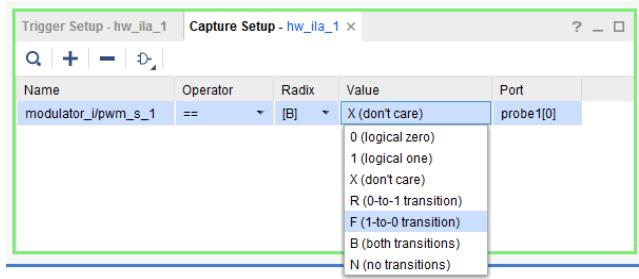

Figure 11.41: Changing the Compare Values in the Capture Setup window
10. In the **Capture Setup** window, leave **== (equal)** value in the **Operator** cell, [B] (Binary) value in the **Radix** cell and set the **Value** parameter to be **F (1-to-0 transition)**, as it is shown on the Figure 11.41.